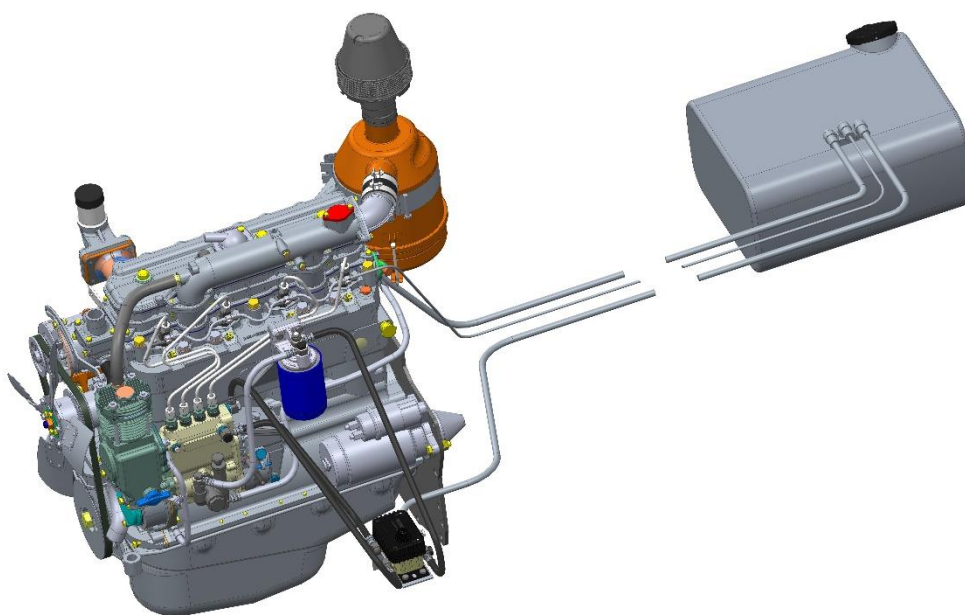
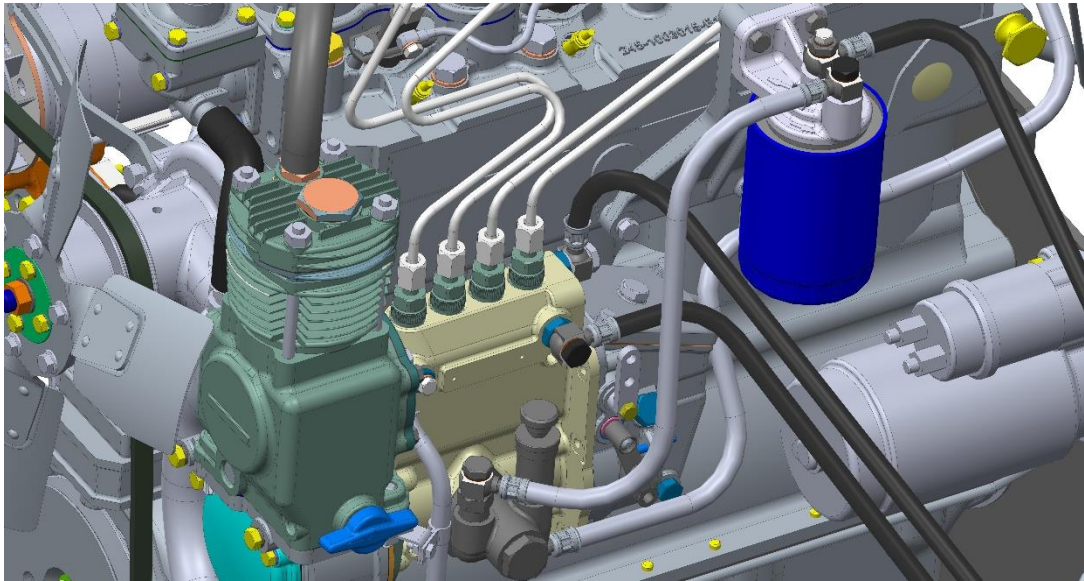
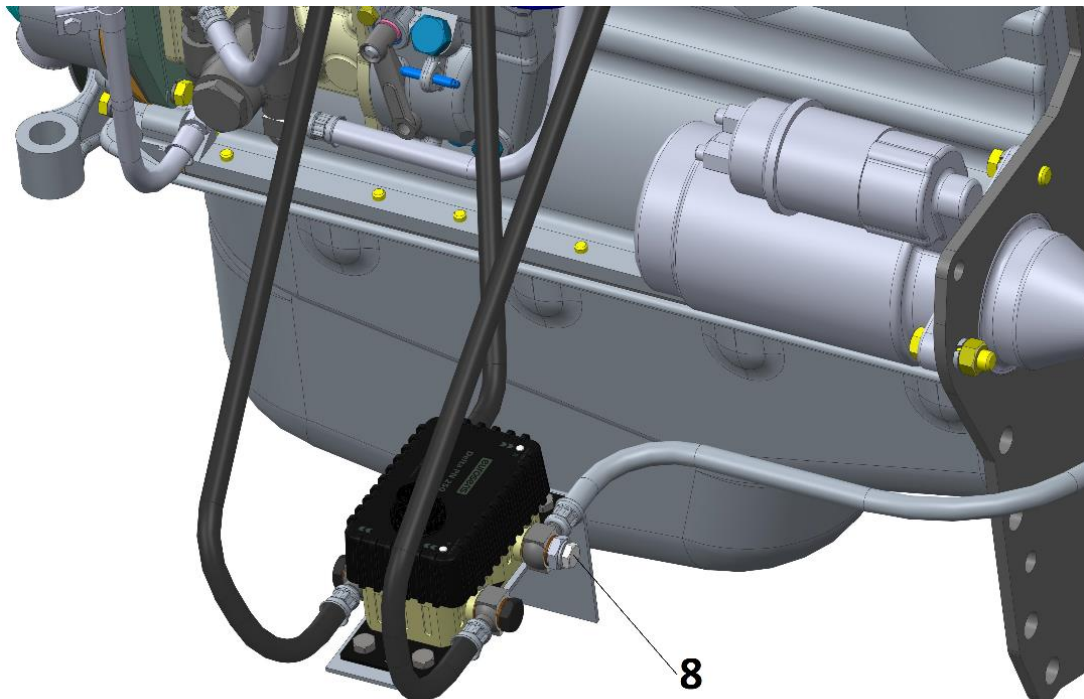

fig. 4.14. Engine with HPFP and fuel lines
fig. 4.15. Connection of flowmeter to HPFP
fig. 4.16. Relief valve installed at return chamber outlet
- 2) Install and connect fuel flowmeter eurosens Delta (fig. 4.14, fig. 4.15, fig. 4.16):